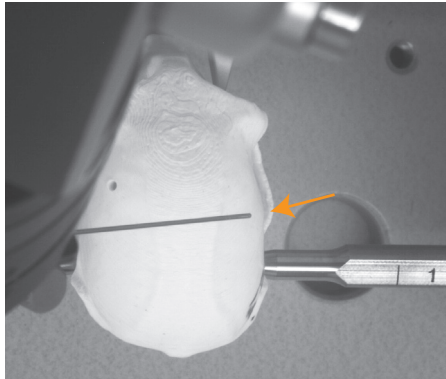

Fig. 4-5
- DON'T have high-contrast edges or other artifacts in the image around the tool (see Fig. 4-5).